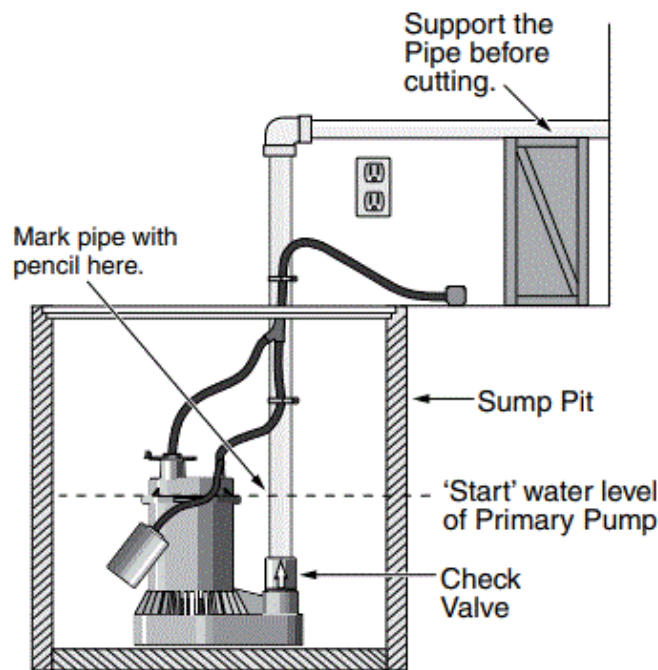

Figure 1: Mark pipe at 'start' water level
1. Locate the high water level in your sump pit (that is, the water level at which the existing (primary) sump pump starts – see Figure 1). Mark this point on the discharge pipe with a pencil or marker.